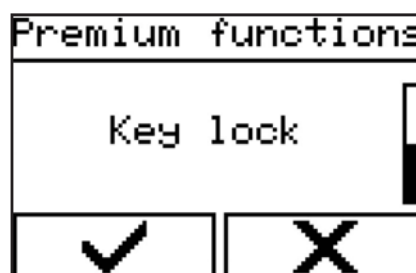

Figure 50 - Selecting a menu
1. Select the menu via 'Hand switch' → 'Premium functions' → 'Button lock' (Figure 50).